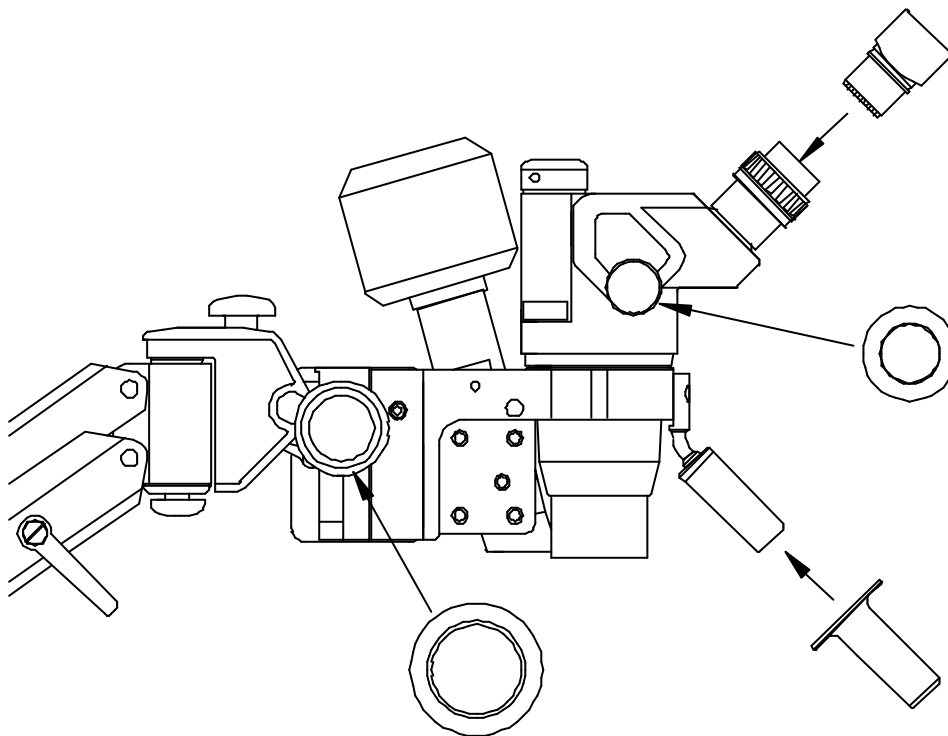

Figure 5 Inserting the eyepieces and sterilisable covers
8. Remove the microscope eyepiece blanks and insert the eyepieces from the tool kit. Refer to figure 5.
- 10.. Remove the focus control knob cover and (small) zoom control knob cover from the bag inside the case. Refer to figure 5. Push them into position on to the knobs on the left side of the microscope head.
11. Remove the guide handle cover from the bag inside the case, and slide it over the guide handle located at the front of the microscope. Refer to figure 5.